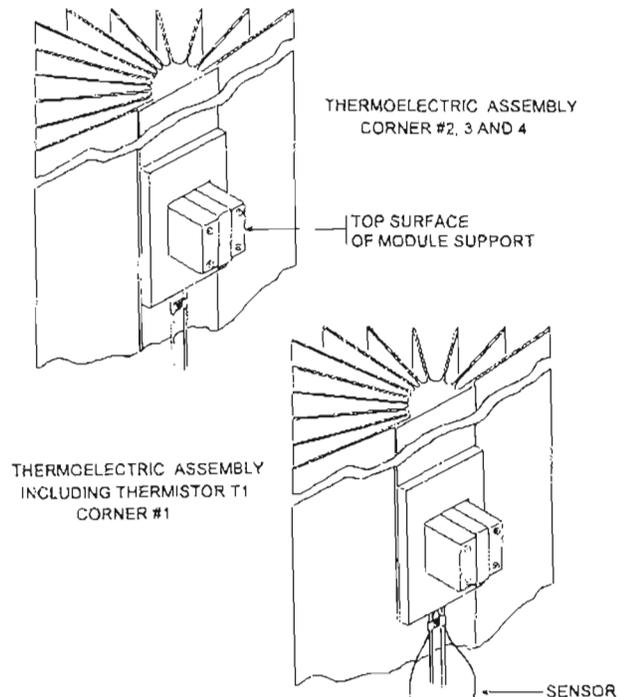

Figure 3-20. Thermoelectric assembly.
(1) Thoroughly wipe clean the top surface of the module support (fig 3-20) and the mounting surface in